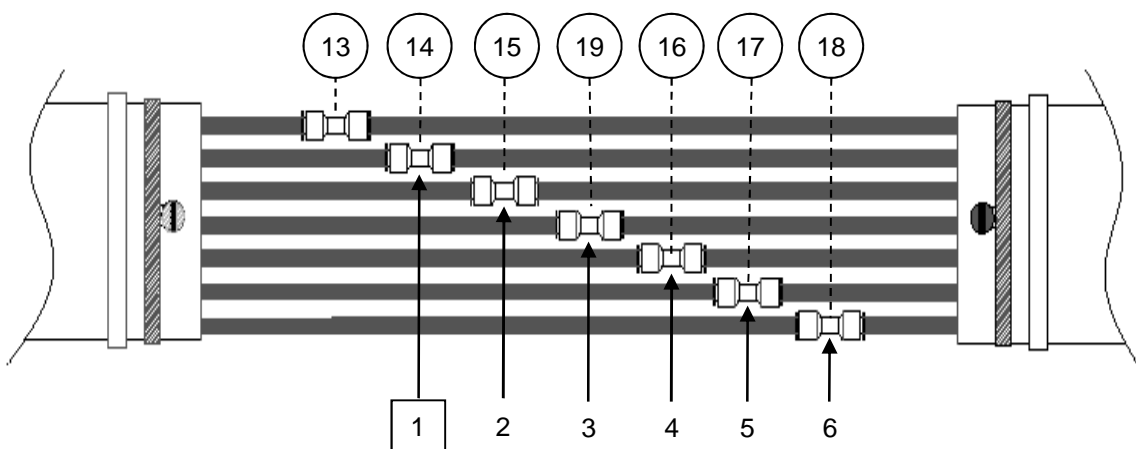

Figure 14
11.2 Locate inner ring Tube 14 Coupling and outer ring Tube 1 of first tube cable. **See Fig. 14.**